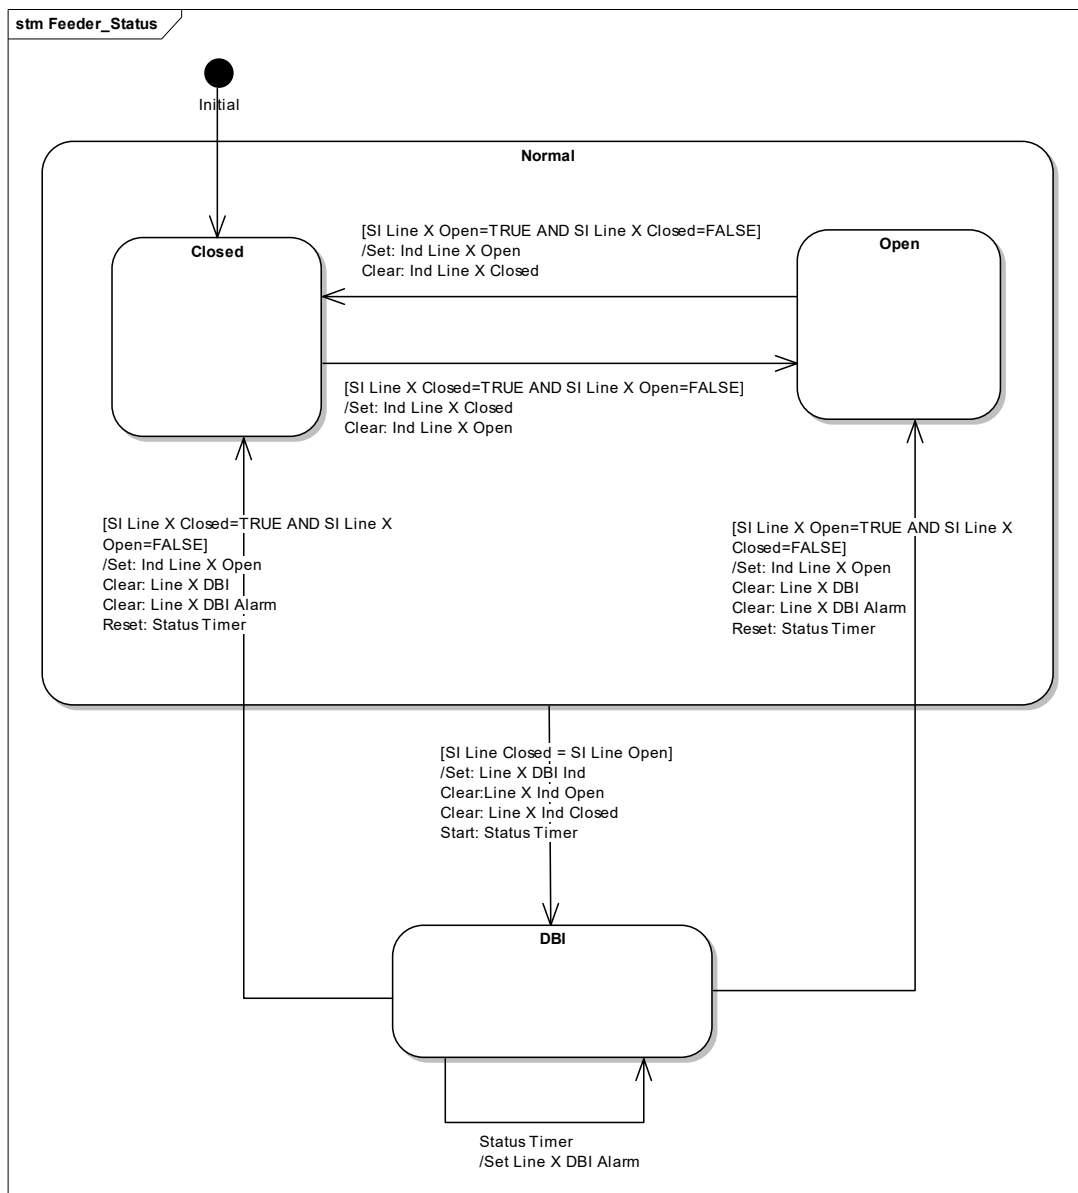

Figure 8: Feeder function feeder status- state chart
The detailed operation of the Feeder Function block is shown in the State Charts in figures 8 to 11. The P842 relay must perform and match the signals state, providing that the applied conditions are true. The interface between Feeder Function and other Function Blocks is done through PSL.
- Figure 8: Feeder Status: Monitor the Feeder disconnector position status